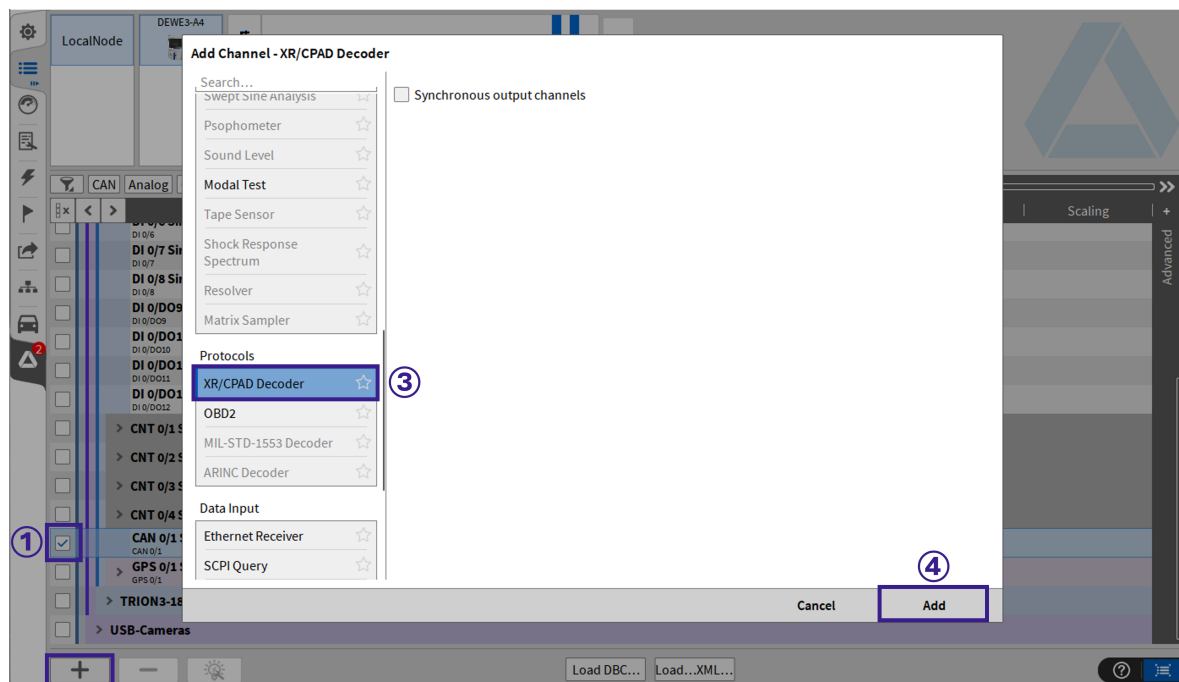

Fig. 4.33: Adding a CPAD decoder Adding a CPAD decoder (alternate approach)
Alternately, the CPAD decoder plugin can be added by the “+”-button as well. To do so, select the correct CAN-bus, press “+”, choose *CPAD Decoder* and press *Add* (see Fig. 4.33). With the option “Synchronous output channels” ④, the acquired CAN data is forced to equidistant timestamps.